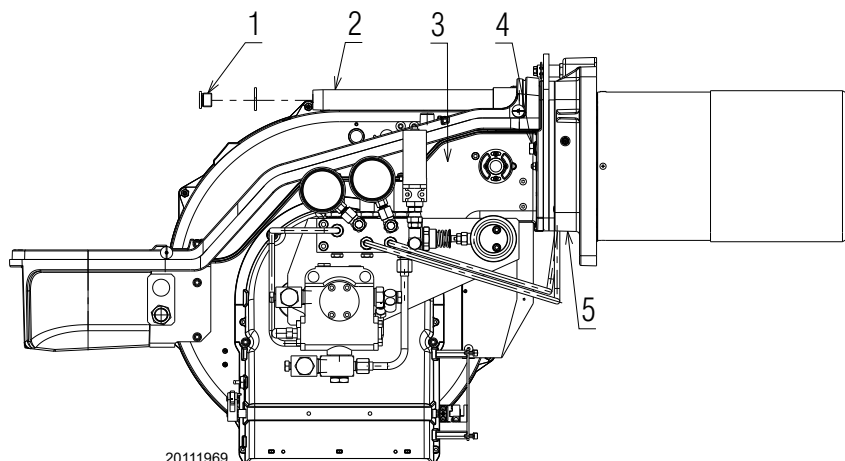

Fig. 18
- Finally remount the burner 3)(Fig. 18) on the slide bars 2) and slide it up to the flange 5), keeping it slightly raised to prevent the flame stability disk from pressing against the blast tube.